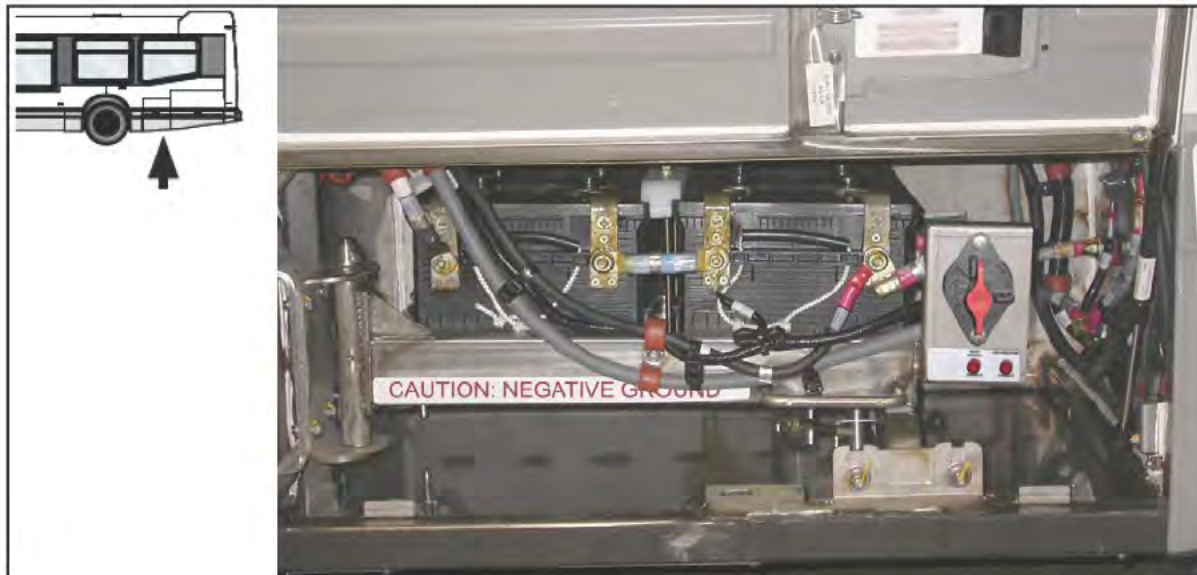

Figure 1 - Typical Battery Compartment
- 1.1. Locate and open the battery compartment door (see Figure 1).